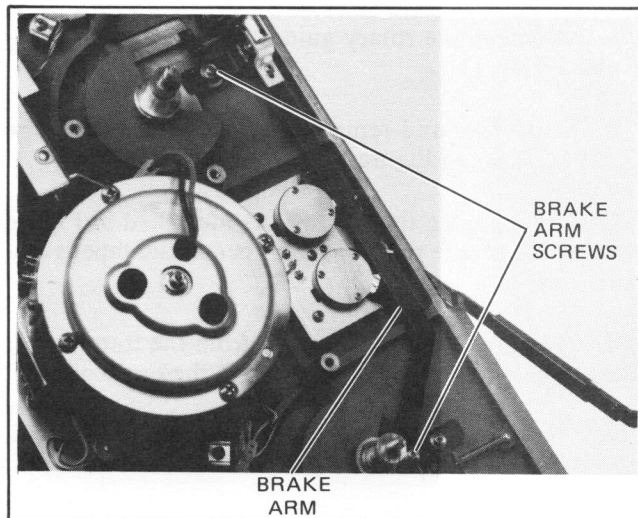

Figure 5-49. Brake Arm Removal
- Remove the long brake arm. It is connected to the right and left bell cranks with the screws and nuts as indicated (see Figure 5-49). Use a box end wrench to hold the nuts.